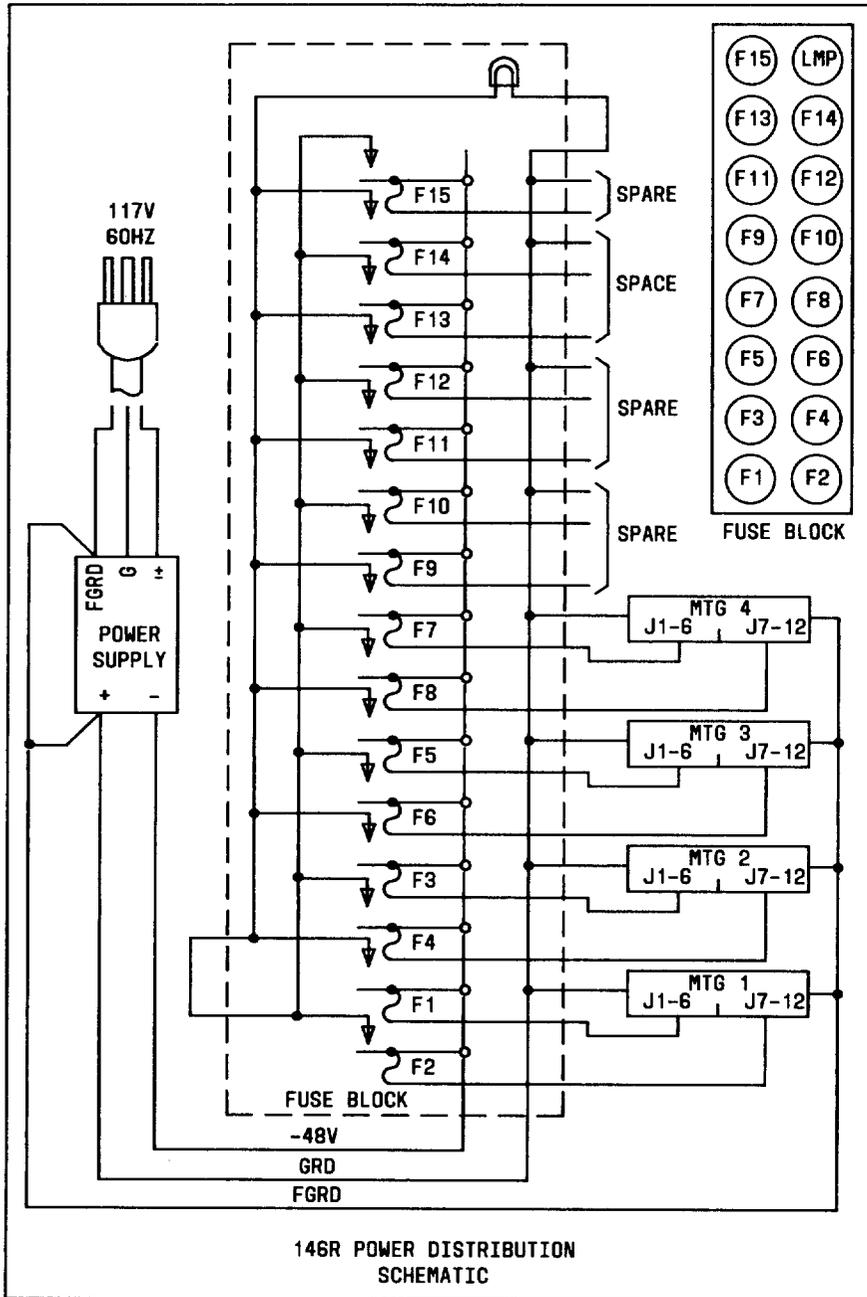

Fig. 4—Power Distribution Schematic
3.04 A -48 volt, 6-ampere dc power supply and fuse panel is mounted at the bottom of the cabinet. Factory installed wiring connects the power supply and fuse panel to groups of six circuit pack mounting slots. A power distribution schematic (see Fig. 4) on the inside of the front door shows the fuse assigned to each group of six mounting slots. The DS1 lamp on the fuse panel will light when a fuse is blown.